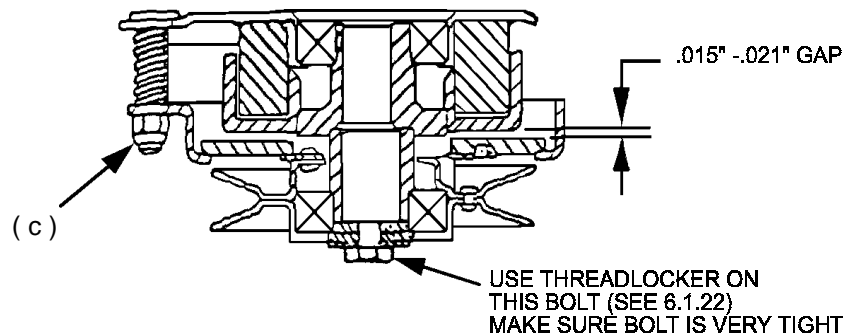

FIG. 12
- Place .015-.021 inch feeler gauge through each of the three clutch gap holes. If gap exceeds this range, tighten the three adjusting nuts (c) until the proper gap is obtained (See Figure 12). The three clutch gap holes are located at the "nut side" of the adjusting bolts. The adjusting bolts can be identified by the springs surrounding each bolt.